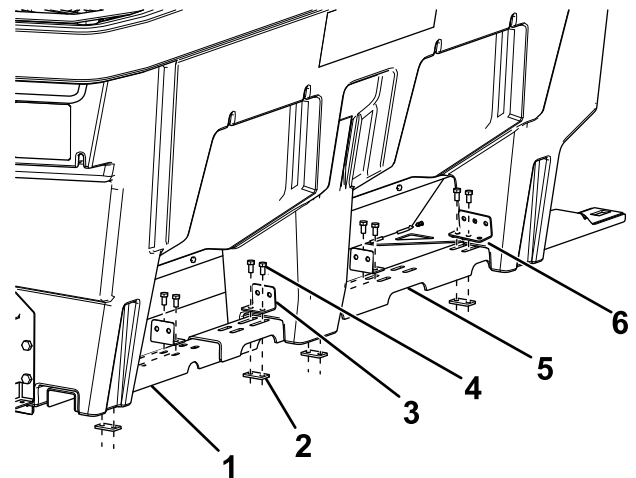

Figure 3
7. Slide both the long and short frame rails under the legs of the spreader (Figure 3). If you are installing the kit onto a VBX 6500 or Forge 1.0 spreader, you do not need the short frame rails. If installing the kit onto a VBX spreader, use the wide L-brackets for the hopper legs closest to the pre-wet tank.
- **VBX 8000/9000 models only:** loosely mount the 8 L-brackets to the rails near each spreader leg using 16 bolts (3/8 inch) and 8 tap plates (Figure 3).
- **VBX 6500 models only:** loosely mount the 6 L-brackets to the rails near each spreader leg using 12 bolts (3/8 inch) and 6 tap plates (Figure 3).
- **Forge 1.0 models only:** loosely mount the 2 L-brackets to the rails near each spreader leg using 4 bolts (3/8 inch) and 2 tap plates (Figure 3).
- **Forge 1.5/20 models only:** loosely mount the 4 L-brackets near each spreader leg using 8 bolts (3/8 inch) and 4 tap plates (Figure 3).